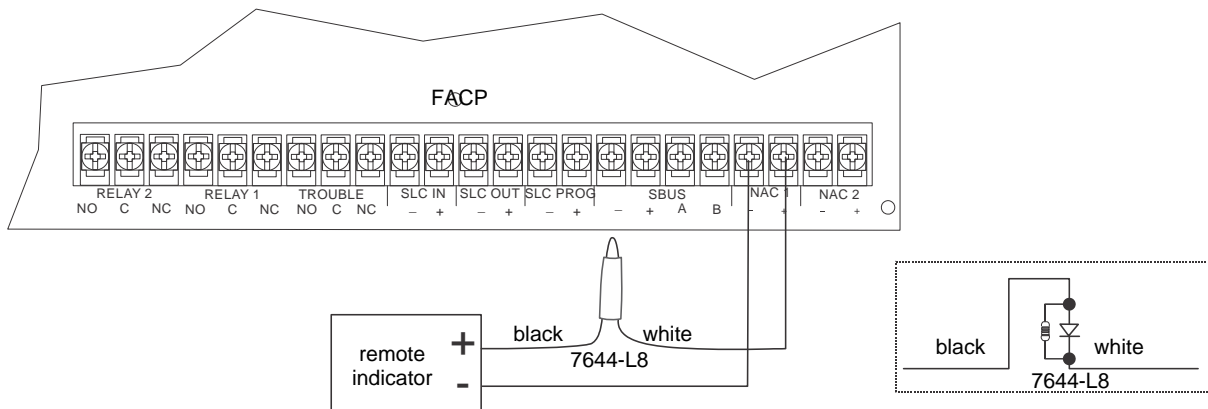

Figure 4.29 Polarity Reversal Connection Using the 7644-L8
1. Wire the 7644-L8 to the control panel as shown in Figure 4.29. Do not install an EOL resistor on the terminals of the NAC circuit used.